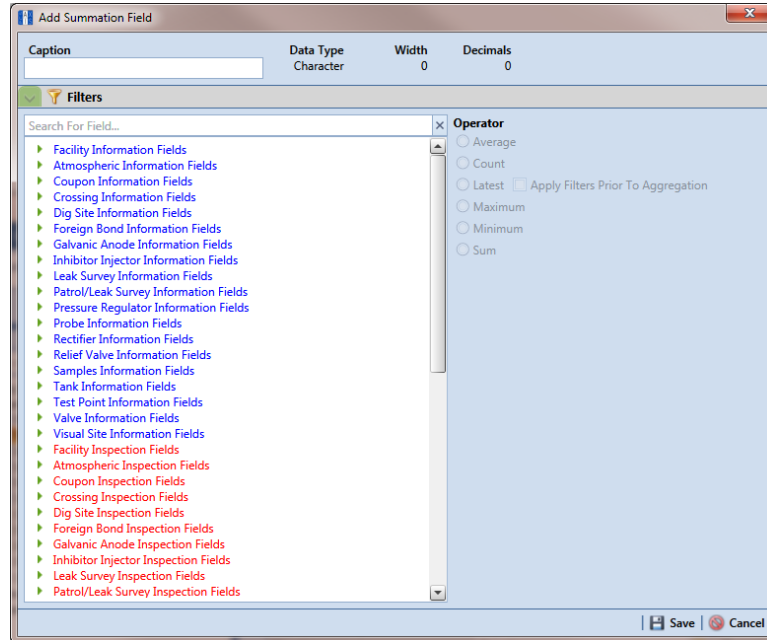

Figure 3-58. Add Summation Field
- 4 Click  **Summation** in the toolbar to open the *Add Summation Field* dialog box (Figure 3-58, page 106).